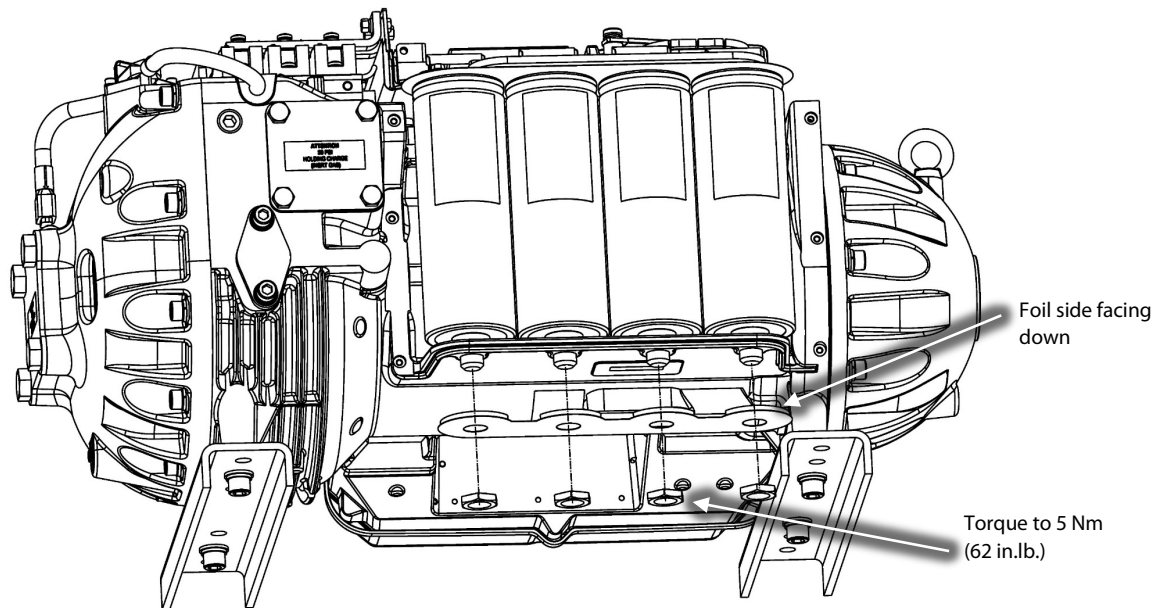

Figure 27 – Capacitor Nut Installation
13. Loosely install the three (3) M8x70 fasteners that secure the motor bus bars to the inverter output through the copper tubes. Continue to Step 14 if the compressor contains PPS High-Power Feedthroughs. Continue to Step 15 if the compressor contains Stainless Steel High-Power Feedthroughs.
14. For the PPS High Power Feedthroughs, install the three (3) M10x16 fasteners and lock washers that secure the motor bus bars to the PPS High-Power Feedthroughs and torque to 14 Nm (10 ft.lb.). Be careful not to over tighten the bolts to the power feedthroughs. Continue to Step 16.
15. For the Stainless Steel Feedthroughs, install the three (3) M10 nuts and lock washers that secure the motor bus bars to the Stainless-Steel High-Power Feedthroughs and torque to 15.5 Nm (11.5 ft.lb.). Be careful not to over tighten the nuts to the power feedthroughs. Continue to Step 16.
16. Torque the three (3) M8x70 fasteners that secure the motor bus bars to the inverter output to 14 Nm (10 ft.lb.).
17. Reconnect the two (2) connectors to the Thermistor Sensor Feedthroughs.
18. Install the new Manifold Mylar on the DC Bus Bar as shown in Figure 27 (DC Bus Bar Spare Mylar Placement).